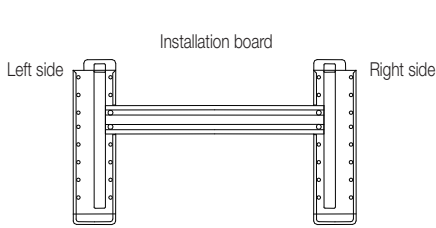

Fig. 4
- Drill holes as Fig. 4 shows. The hole, 80 mm in diameter, should slightly slide down outwards.